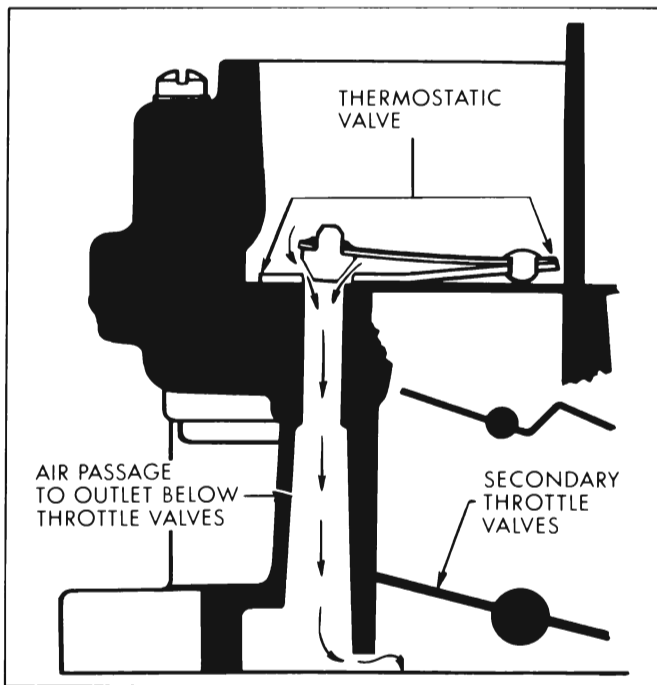

Figure 3-32—Thermostatic Valve Assembly
certain point, the calibrated thermostatic spring opens the valve. This allows additional air to flow through a special passage to an outlet below the secondary throttle valves. At normal operating temperatures, the valve should be closed. The thermostatic valve cannot be adjusted or repaired; therefore, a faulty valve must be replaced. See Figure 3-32.
11. Remove thermostatic valve and gasket. See Figure 3-32.
3. Install thermostatic valve using new gasket. See Figure 3-32.